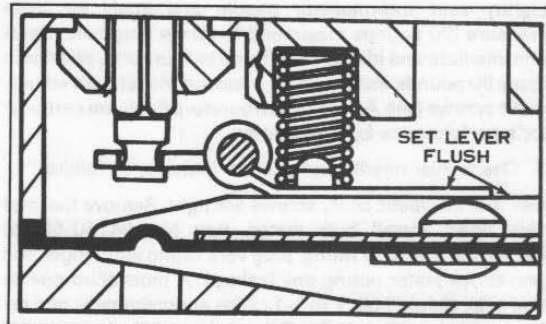

Figure 3-64
9. Inspect inlet needle lever for correct adjustment. It should be flush with surrounding floor of carburetor body. If not equipped with shackled needle, replace with Kit No. 27588-66. Tighten seat to 45 in-lbs torque. See Figure 3-64.
The inlet control lever must rotate freely on the fulcrum pin and forked end must engage slot in inlet needle (see Figure 3-64). The spring (37) should not be stretched or distorted.